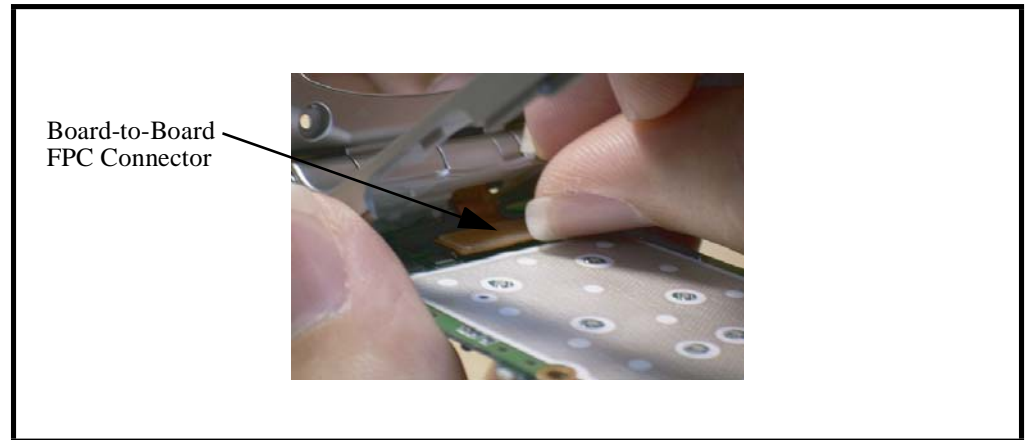

Figure 25. Removing the Lower PCB
4. Remove the lower PCB from the rear housing by lifting the board-to-board FPC connector up and away from the back side of the lower PCB as shown in Figure 25.